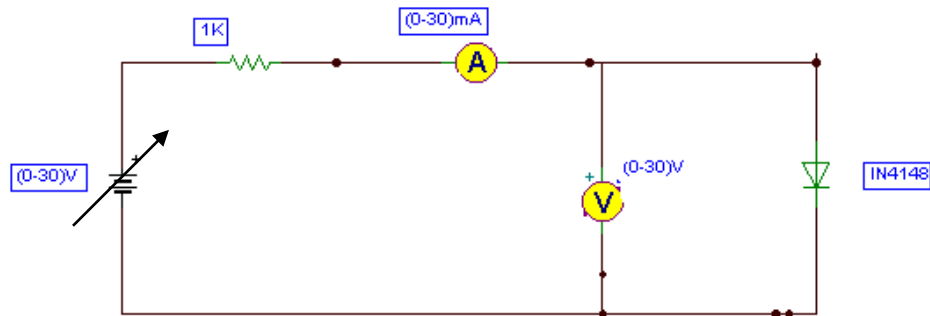

Figure.1
2. Connect the circuit diagram as shown in fig.1
1. Connect the circuit as per the given circuit diagram shown in figure:1
4. Plot a graph taking voltage (V) on X axis and current (I) on Y axis